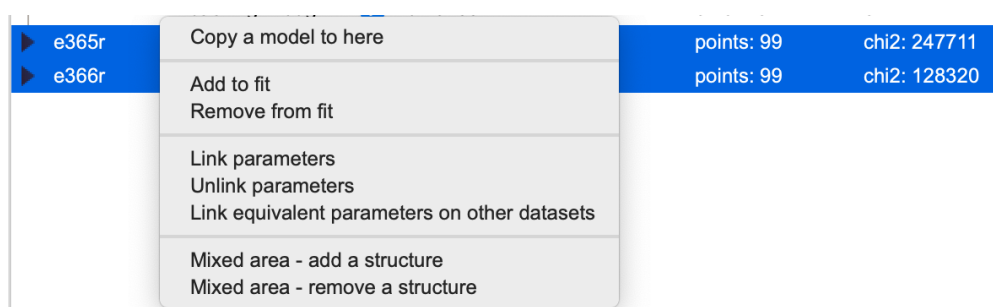
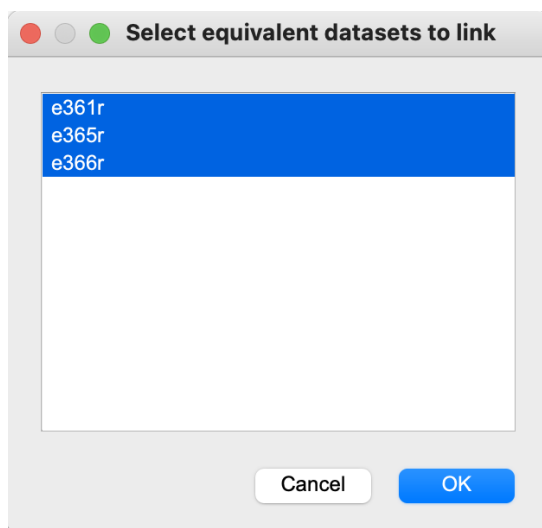

Figure 5 The contextual menu presented when one right-clicks on the data tree.
Figure 8
- In the data tree select the e365 and e366 datasets. With the datasets selected right-click to bring up the *contextual* menu (Figure 5).
1. Select the polymer layer thickness parameter for e361. Press **Ctrl-3**, this is the keyboard shortcut for the menu item “*Model → Link equivalent parameters*”. It’s also possible to do this by the right-click contextual menu (Figure 5). A dialogue appears asking you to ‘select equivalent datasets to link’, select all the datasets (Figure 8). This process requires that all selected datasets have a similar interfacial model. If you look at the *constraint* column for the polymer thickness, for e365 and e366, you should see that it has a constraint applied to it.